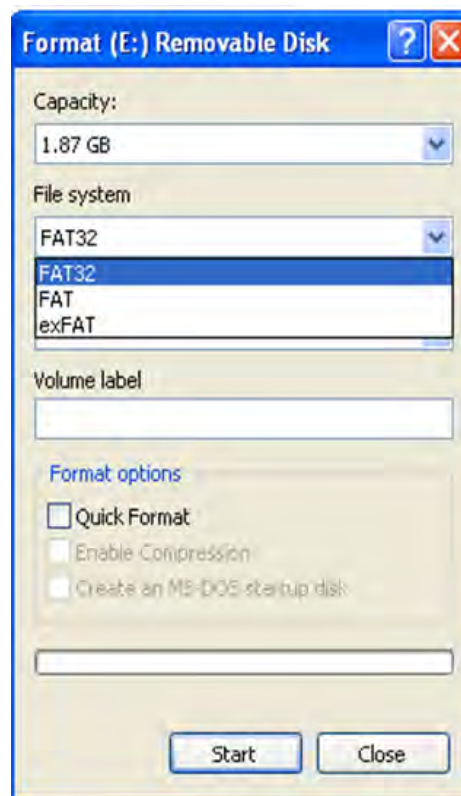

Figure 11: Format settings, when formatting CF card for a CR1000 data logger
- Right click on the drive and press [Format]. A new window will appear (Fig. 11) where you have to specify the format options. Change the ‘File system’ to [FAT32] and leave all other options as default values.